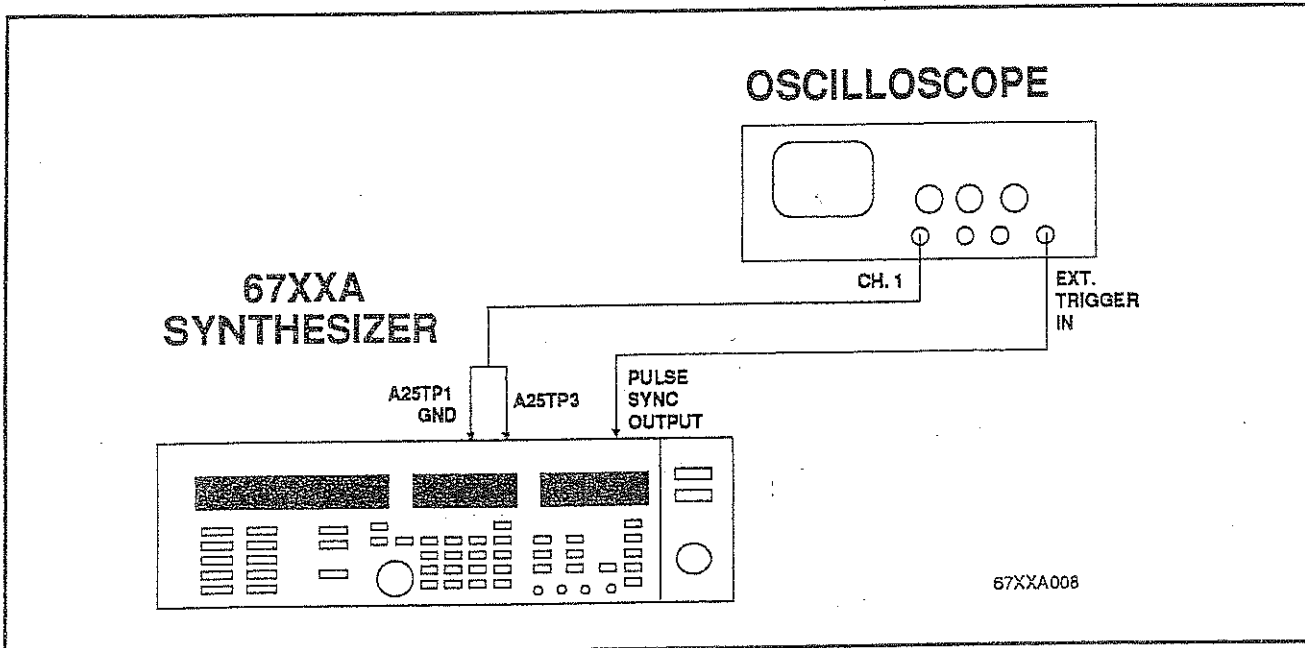

Figure 3-2. Test Equipment Setup for Power Supply Injection-Lock Adjustment
2. Connect the equipment as shown in Figure 3-2.